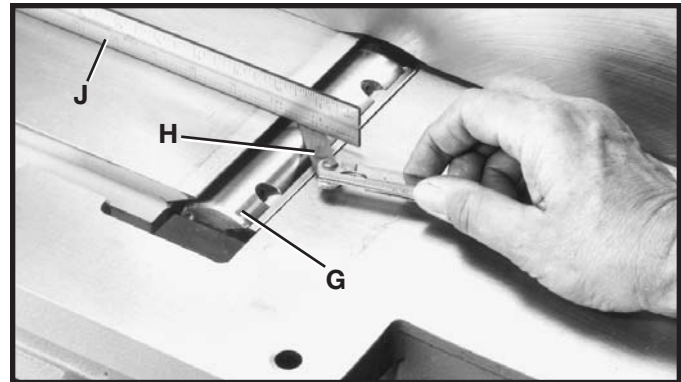

Fig. 60
10. Carefully rotate the cutterhead (G) Fig. 60, until the round portion of the cutterhead is on top as shown.
11. Place a .060" (1.5 mm) feeler gage (H) Fig. 60, on the cutterhead and using a straight edge (J) on the rear table adjust the height of the rear table until it is .060" (1.5 mm) above the cuttinghead diameter.